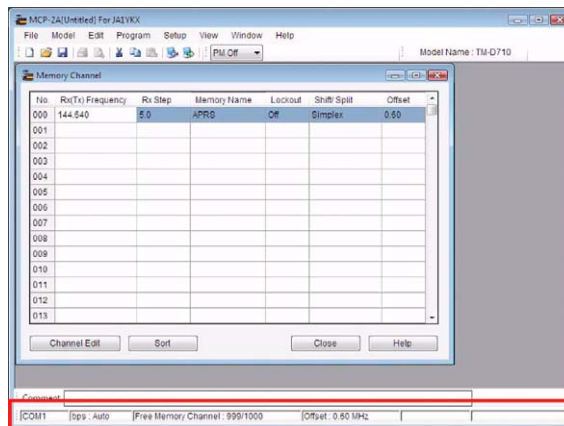

Figure 9-8 Memory Channel Shortcut
- Double-click “Free Memory Channel: xxxx/1000” on the Status bar (see Figure 9-8). The **Memory Channel** window will appear.
- Double-click “Offset/ Tx Freq.,” “Plus/ Minus Shift/ Split,” “T/CT/DCS” sections on the Status bar (see Figure 9-8) to edit the channel configurations. The **Channel Edit** window will appear.
Double-click the “COM x” or “bps : xxxx” sections on the Status bar (see Figure 9-8). The **COM Port Setting** window will appear.